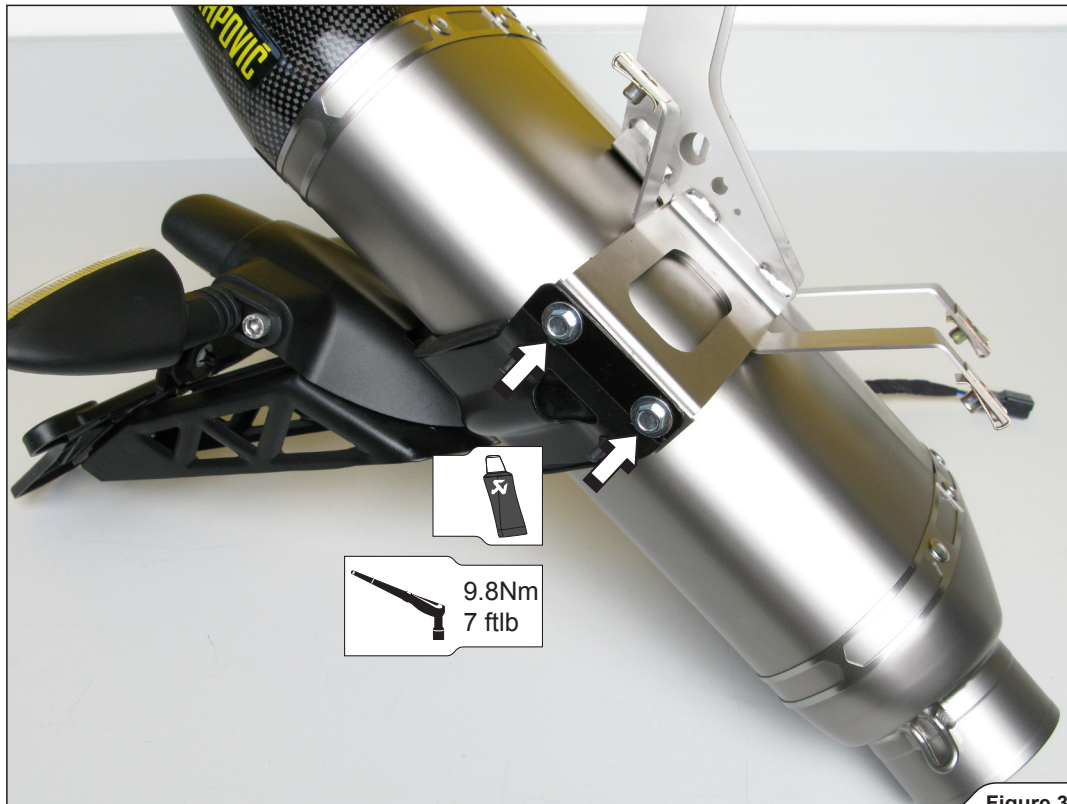

Figure 33
12. Install stock licence plate bracket onto the muffler bracket, using Akrapovič M6x16 bolts (Figure 33).